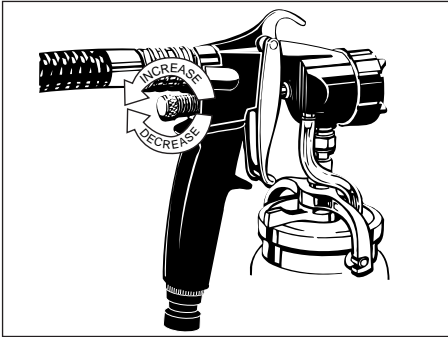

Figure 9 - Adjusting Material Flow
- To adjust material flow, turn material control knob clockwise to decrease and counterclockwise to increase (See Figure 9).
- For fine pattern adjustment, turn air flow control knob clockwise to decrease and counterclockwise to increase air flow (See Figure 9).